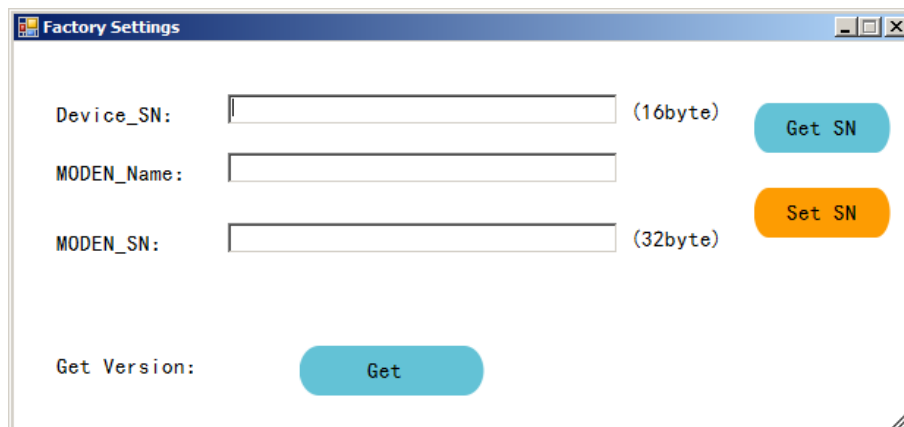

Figure 7-22: Factory Settings Form
- **Factory Settings** submenu item selection opens form, shown at Figure 7-22, allowing V9 OTM45 component parts Serial Numbers reading and writing, as well as current ACU and ODU versions numbers display. To display Serial Numbers click **Get SN** button. To change a Serial Number perform required changes and click **Set SN** button. To display current versions of ACU and ADU click **Get Versions** button.